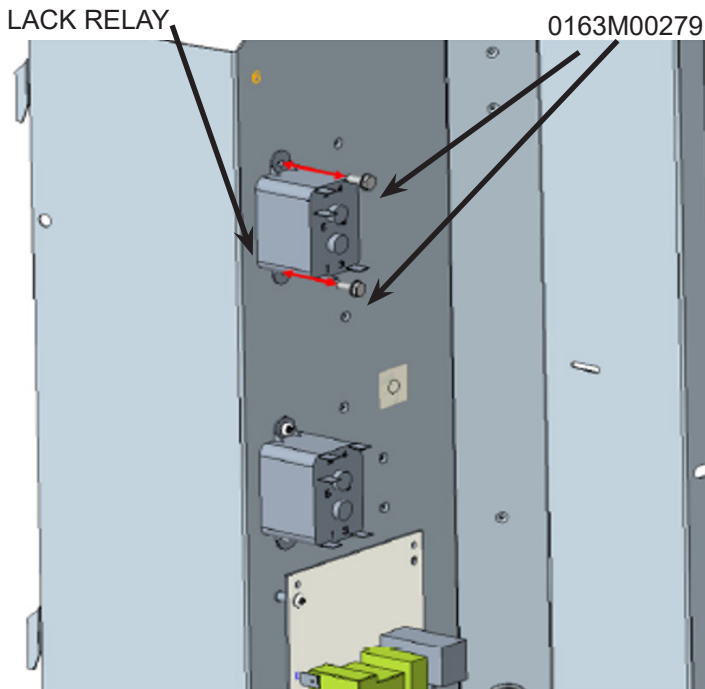

Figure 2
3. Locate and mount relay (see figure 2) with the provided screws within the kit. Skip to Step 4 if unit is AC only.